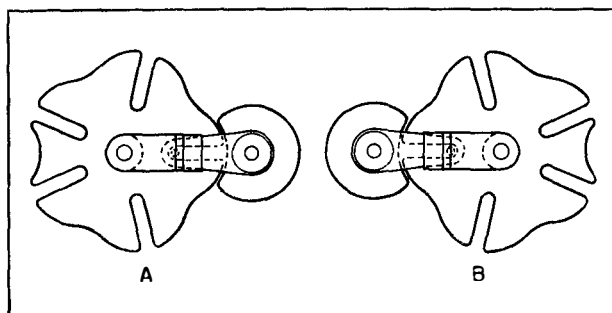

FIG. 4. Geneva Gearing for Type URS Cam Switch Unit (Position Shown is for Position O)
9. The Geneva Gearing used for the limit switch shaft is as shown in Fig. 4.